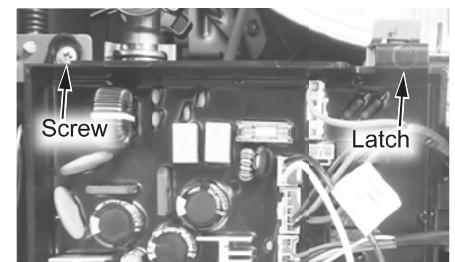

Figure 3 - Control board location
- 7 Locate the screw securing the control board panel. Use a Phillips screwdriver to remove the screw and place it aside in a safe place for re-installation. See Figure 3.